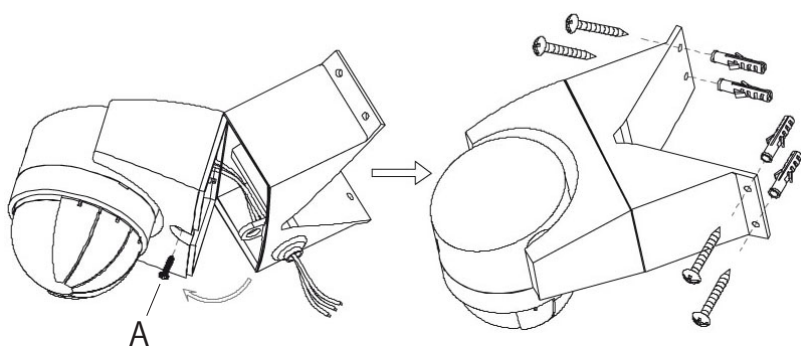

Fig. 1
2. Remove screw (A) and remove base plate see fig 1.